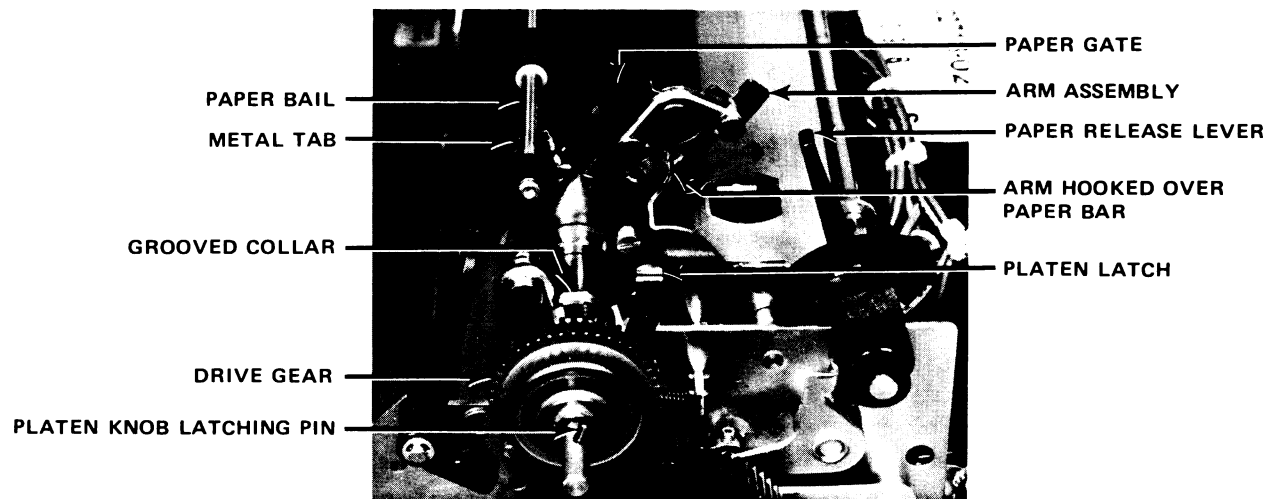

Figure 4-27. PIN FEED PLATEN INSTALLATION
printer side frame. As the platen is being lowered, guide the arm assemblies so that the slot in each arm hooks over the paper bar as shown in Figure 4-27. This locks the arm assemblies into proper position.
- 3) Lift open the paper gate (Fig. 4-27) at each end of the platen. (The gate will remain open if lifted to its limit.)
- 4) Insert the leading edge of the paper down behind the paper bar (Fig. 4-27) and platen while manually turning the platen to feed the paper around and up in front of the platen.